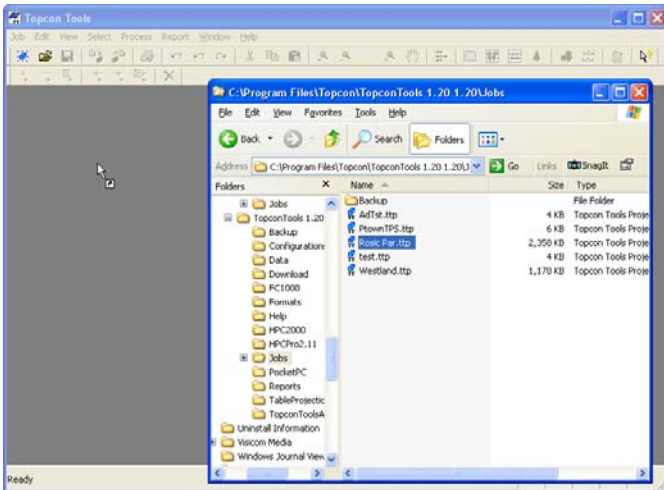

Figure 1-18. Open File Using Drag-and-drop
3. Drag-and-drop the file(s) to the open Topcon Tools software (Figure 1-18).